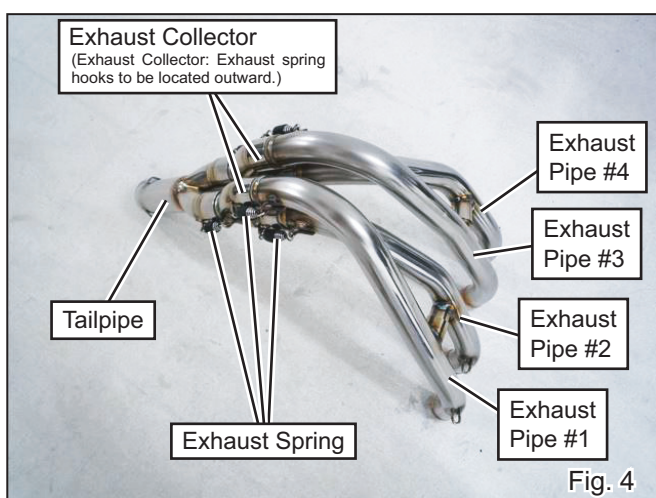

Fig. 4
- 5) Assemble 2 of Exhaust Collector and Tailpipe while spring hooks of Exhaust Collector to be located outside. Fit Exhaust Pipe #1 & #2 and #3 & #4 together, and assemble them on Exhaust Collectors to make a header assy. Then install 6 of Exhaust spring. (See Fig. 4) Remove labels from Exhaust Pipes and wipe down grease with dish soap.